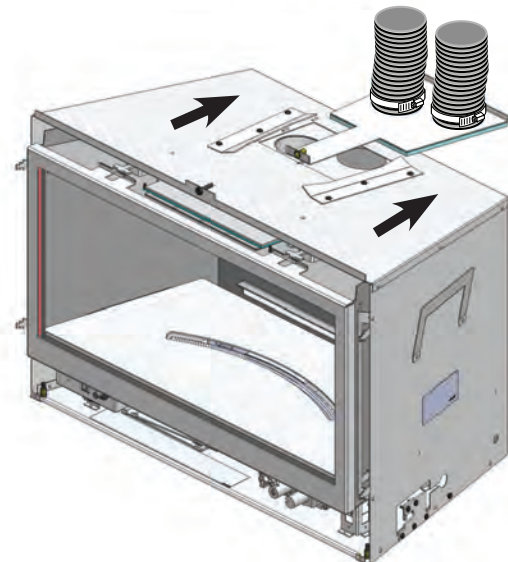

Fig.3
4. Slide the insert into place, guide the vent connector slide plate into the guides on the top of the insert. (**Fig.3**)